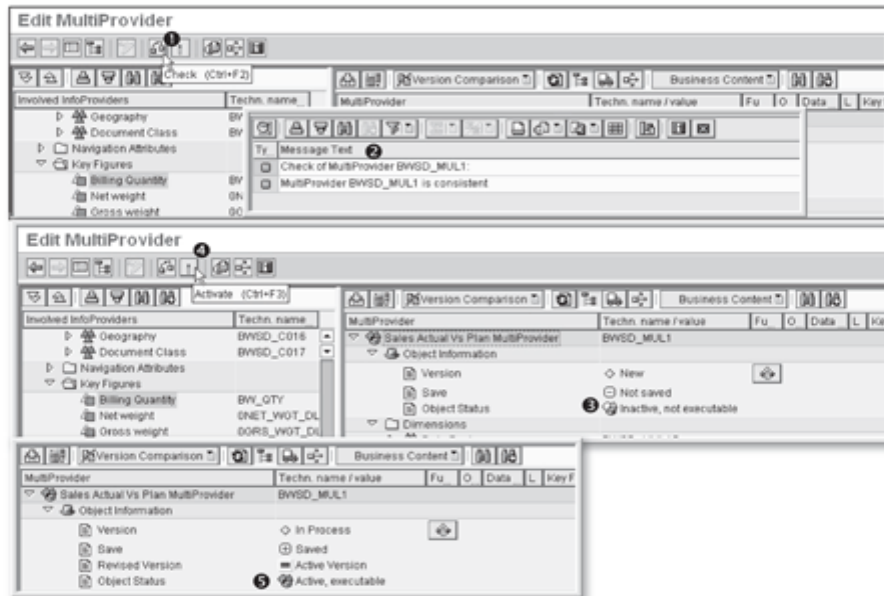

Figure 6.14 Checking and Activating the MultiProvider
Now use the Check icon as shown in ❶ of Figure 6.14 to check the definition of the MultiProvider. If everything is okay, the system reports a message (❷). You can see that the MultiProvider is still not in Active status (❸). Click on the Activate icon (❹). After it's successfully activated, the system changes the status of the MultiProvider to Active (❺).